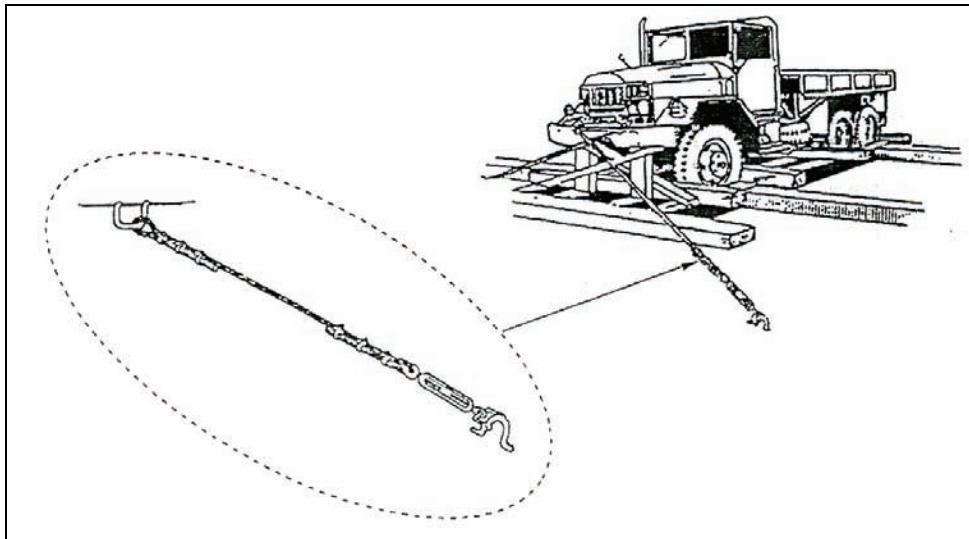

Figure 3-67. Stowing Wheeled Vehicle
1. Stow wheeled vehicle(s) aboard a cargo vessel (see Figure 3-67).